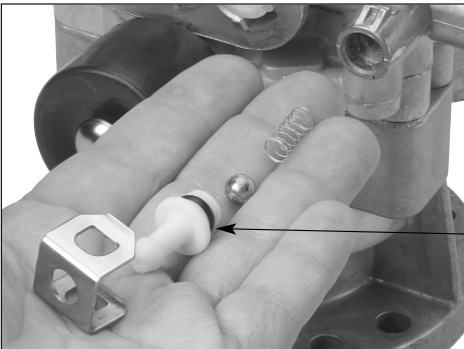

Figure 26
- Remove detergent check valve. (figure 26)
- Inspect O-ring, ball and spring. (inset figure 26)